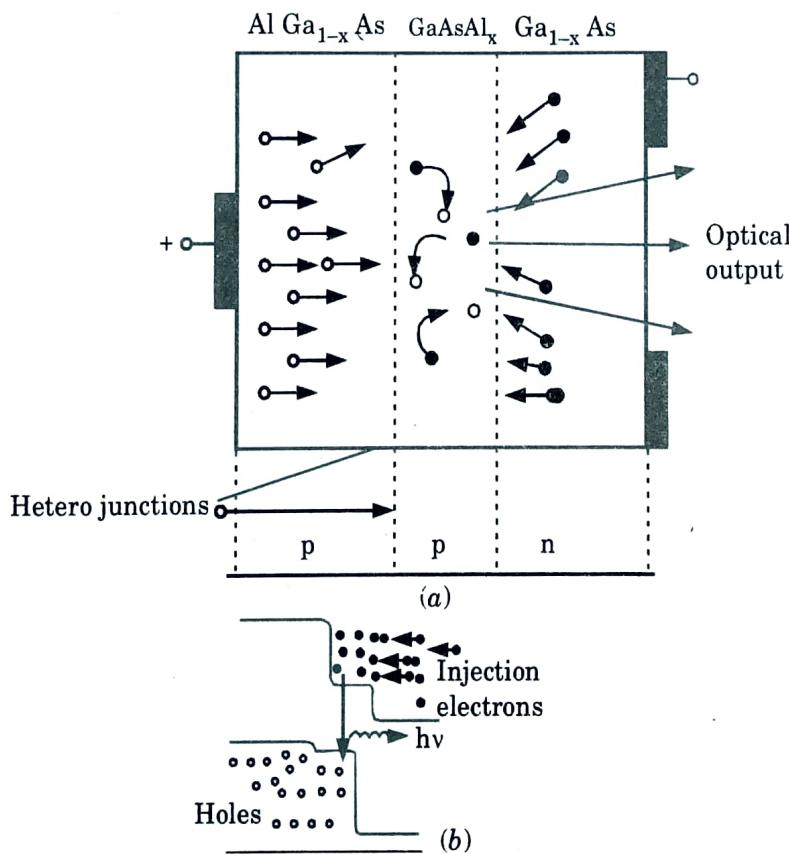

Fig. 3.3.1. (a) The double heterojunction LED, layer structure.
1. The principle of operation of the DH LED is shown in Fig. 3.3.1